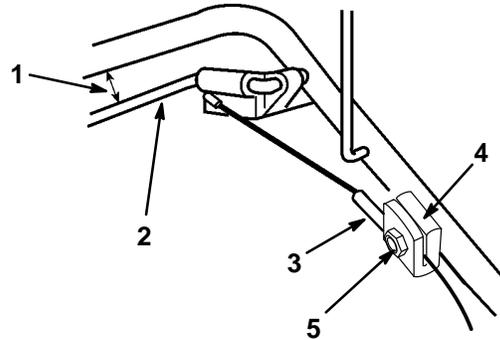

Figure 30
- Loosen the nut on the cable support (Fig. 30).
- Hold the self-propel bail 1 to 1½ in. (25 to 38 mm) from the handle (Fig. 30).